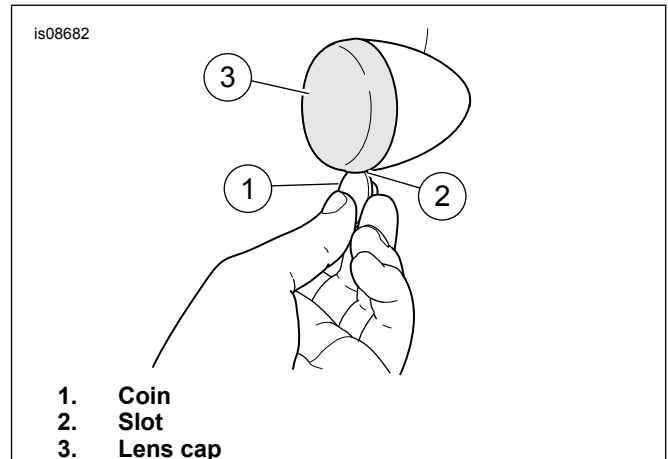

Figure 1. Remove Lens
2. See Figure 1. Insert coin (1) or blade of screwdriver into notch (2) at bottom of lens cap (3).